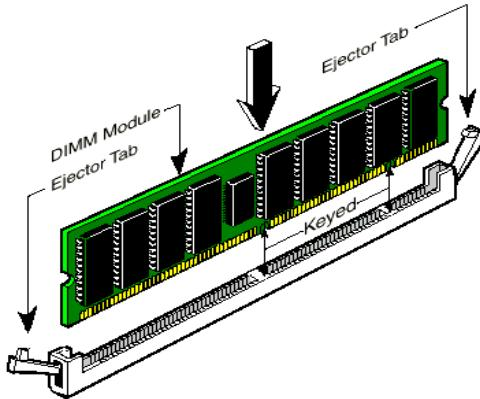

Figure 2-6. Memory module installation
- Step 5. Insert the DIMM module into the expansion socket as shown in the illustration. Note how the module is keyed to the socket. You can refer to figure 2-6 for the details. ***This insures the DIMM module will be plugged into the socket in one way only.*** Firmly press the DIMM module into the DIMM socket, making certain the module is completely seated in the DIMM socket.